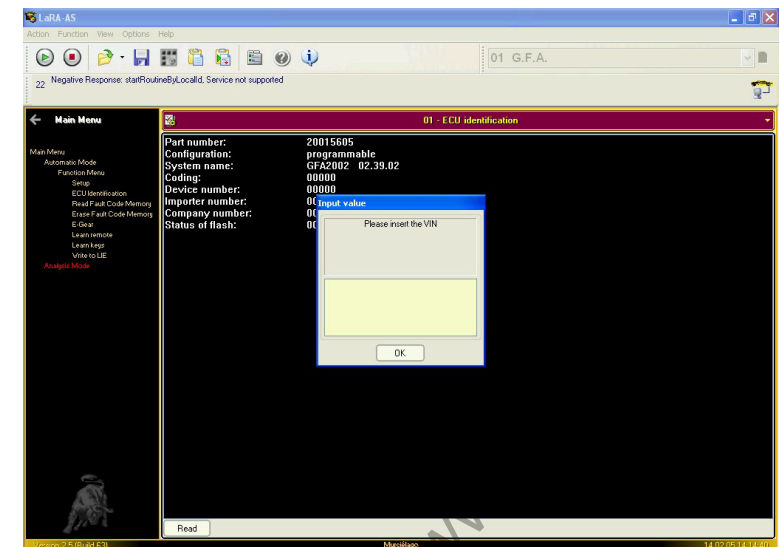

Fig.18
- Enter the vehicle code on the screen (**Fig.18**).